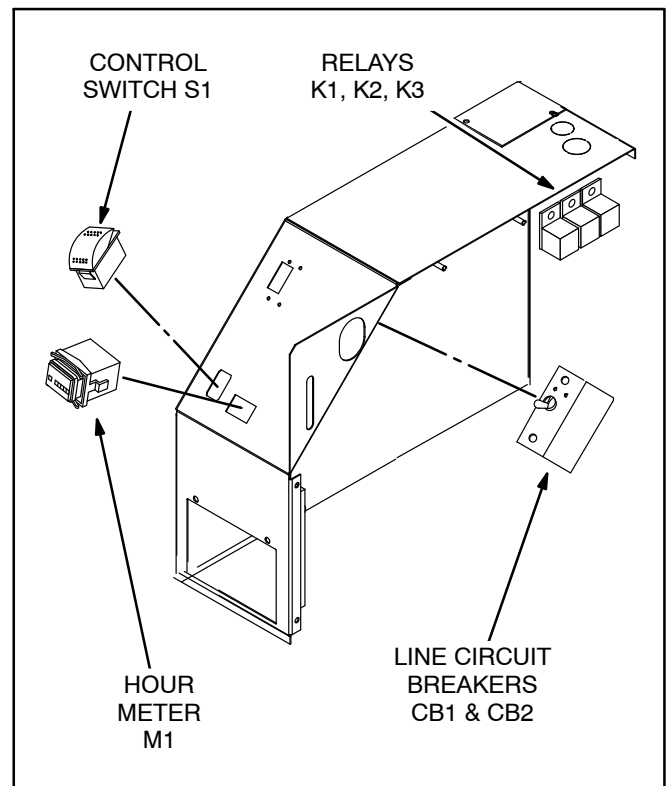
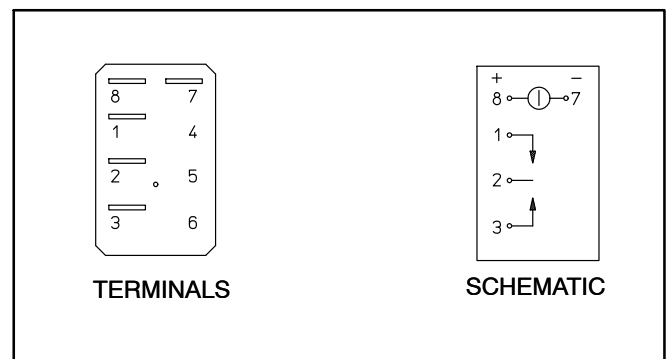
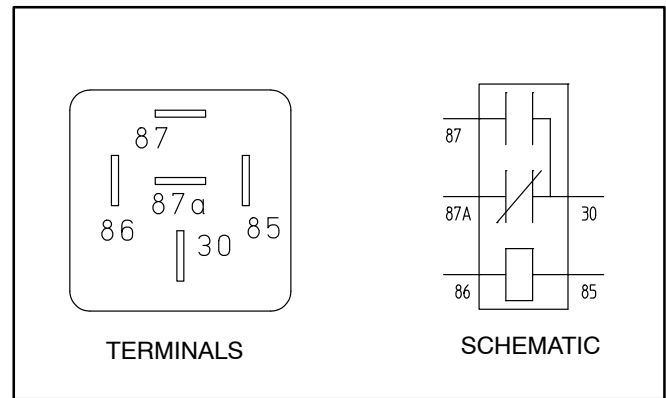

FIGURE 11-3. CONTROL COMPONENTS
FIGURE 11-4. CONTROL SWITCH S1
FIGURE 11-5. RELAYS
**Local Control Switch S1:** Switch S1 is mounted on the control panel (Figure 11-3). Unsnap connector **P9**, which is accessible through the front access door. Referring to Figure 11-4, replace the switch if:
The hour meter (Figure 11-3) is mounted on the control panel and is accessible for replacement through the front access door. It cannot be reset.
The line circuit breakers (Figure 11-3) are mounted on the control panel and are accessible for replacement through the front door. Disconnect all wiring and check electrical resistance across the terminals of each circuit breaker. Replace a circuit breaker that does not reset or that does not close or open as the handle is turned ON and OFF.
These relays are secured in a row above the intake resonator (Figure 11-3) and are accessible for replacement by removing the top enclosure panel. To test a relay, apply 12 VDC across terminals 85–86 (Figure 11-5). Replace the relay if 30–87a (NO) does not close or 30–87 (NC) does not open, or either does not return to its normal position when power is removed.